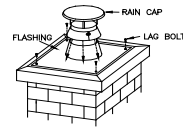

Fig. 5
5. Install the top support on top of the masonry chimney using lag bolts and/or cement (Fig. 5).
6. Slip the support collar over the liner until it rests on the support. Tighten the bolt to fasten it to the liner. (Fig. 5)